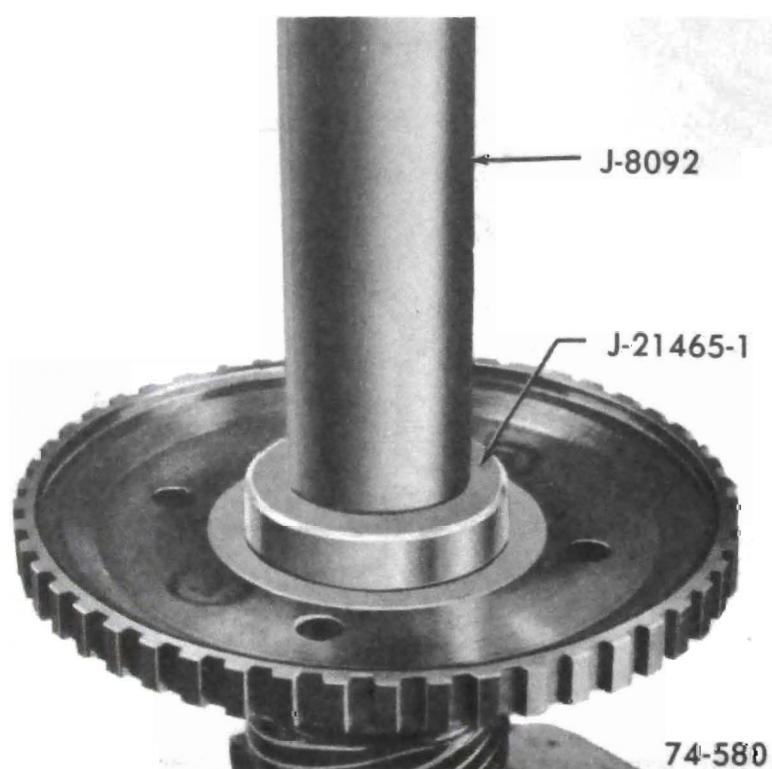

Figure 76-122
b. Using Tool J-21465-1 install bushing. See Figure 76-122.